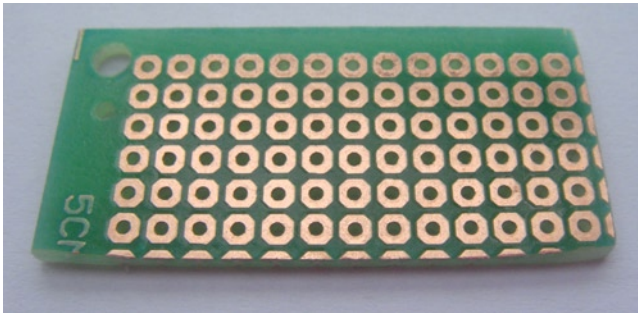

Figure 8-8. PCB ready to use
6. Figure 8-8 shows where I have filed down the cut-down PCB so that it's now ready to use. Give it a good wipe to get any dust off it. That may hamper your soldering.